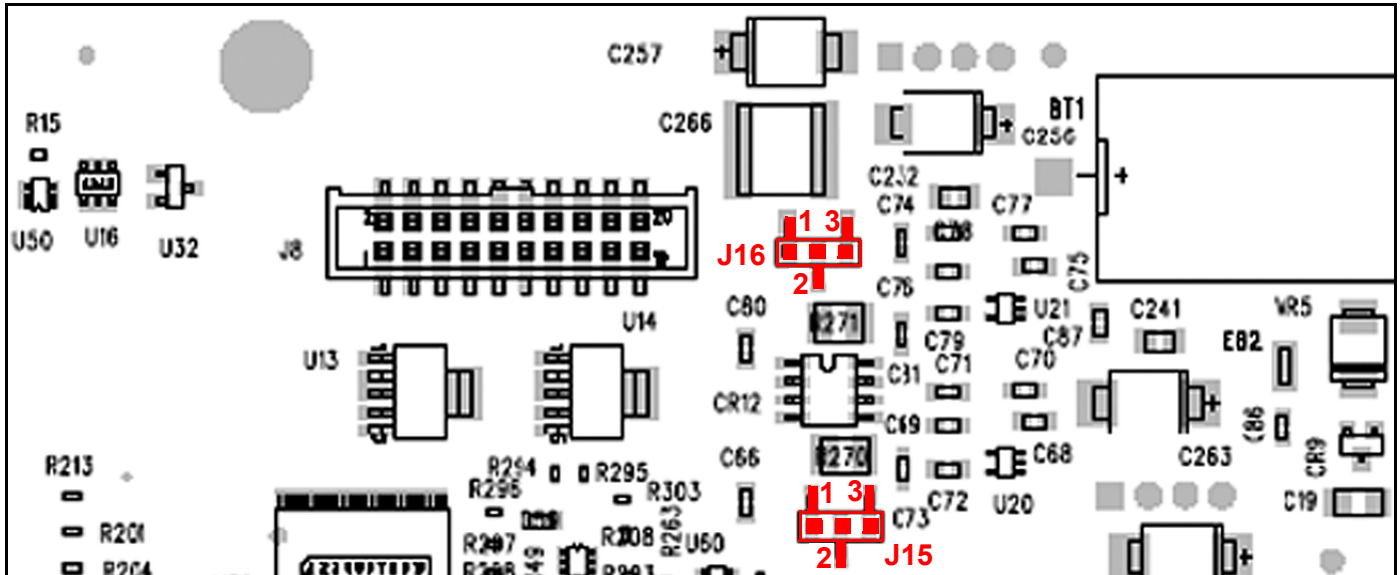

Figure 27: RS-485 Mode Termination - Install Jumpers at J15 and J16, Pins 1 and 2
- Using long-nose pliers, move jumpers J15 and J16 from pins 2 and 3 (default setting from factory) to pins 1 and 2 (see *Figure 27* on page 27). J16 is the termination for port 1 and J15 is the termination for port 2. It is also recommended that basic ESD precautions such as grounded wrist straps be used for this procedure.
For multiple **Aurora H2O** units connected in daisy-chain fashion to the RS485 interface, it is important that the farthest unit away from the transmitting device be the only unit incorporating any termination (see *Figure 27* below). All other units must have jumpers J15 and J16 in positions 2 & 3 (default setting from the factory). For more details on RS-485 wiring or operation, refer to TIA/EIA-485-A Specification.